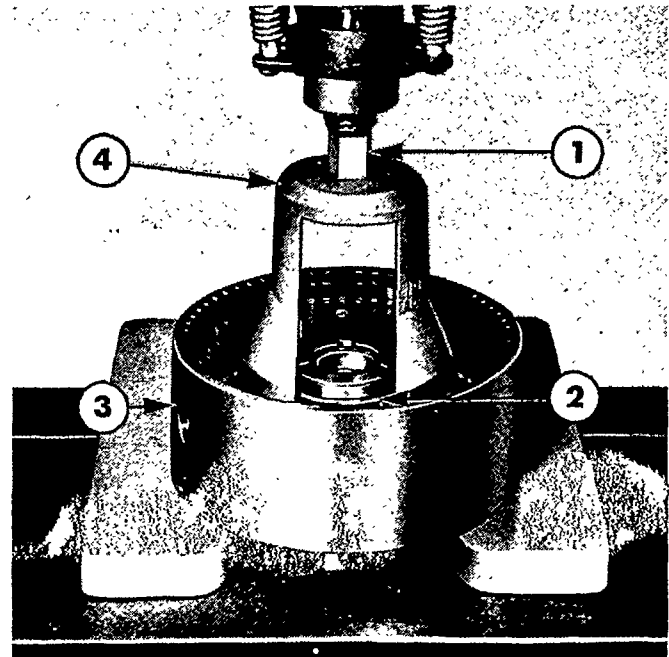

Figure 8
4. Remove the retaining ring by compressing the piston return spring using Tool No. N-775 and either Tool No. 1003 or a press, Figure 8. Release the pressure then remove the spring seat and the spring.